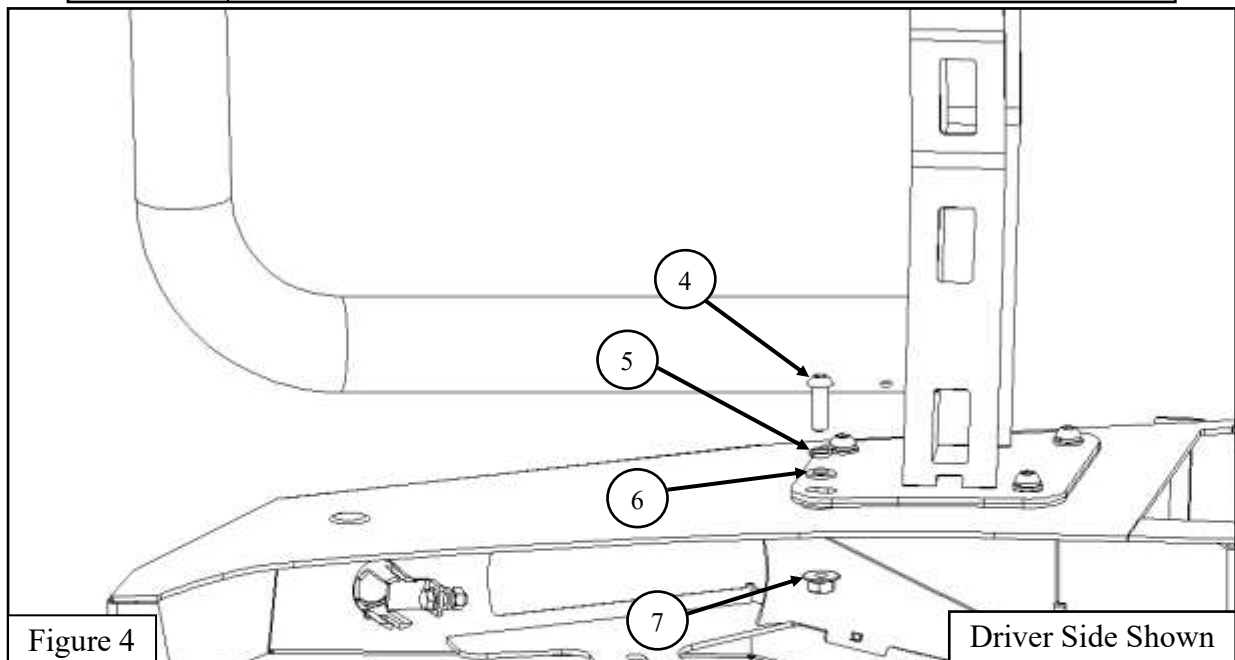

Figure 4
4. With the XTS bumper either off of the vehicle, or installed on the vehicle, loosely mount the Brush Guard assembly using the supplied M8 hardware. See **Figure 4** for reference. Repeat for both the driver and passenger side of the Brush Guard.